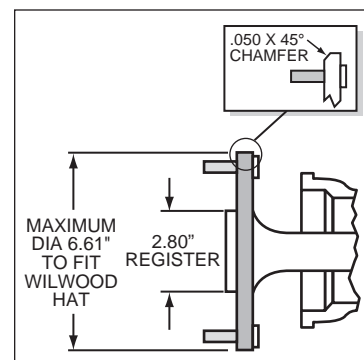

Figure 2. Axle Flange Maximum Dimension
- Axle center register diameter is 2.80", Figure 2. This kit uses Wilwood's removable center register adapters. Rotors can either be centered on the axle register, i.e. *register-centric* or centered on the wheel studs, i.e. *stud-centric*. Due to variations in wheel stud final diameters, *register-centric* centering can be a more accurate method of centering the rotor to the axle. Wilwood offers various diameter adapters for purchase in addition to the ones supplied in this kit, see Table 1.
- Maximum axle flange diameter must be no larger than 6.61" w/.050" x 45° chamfer, Figure 2.